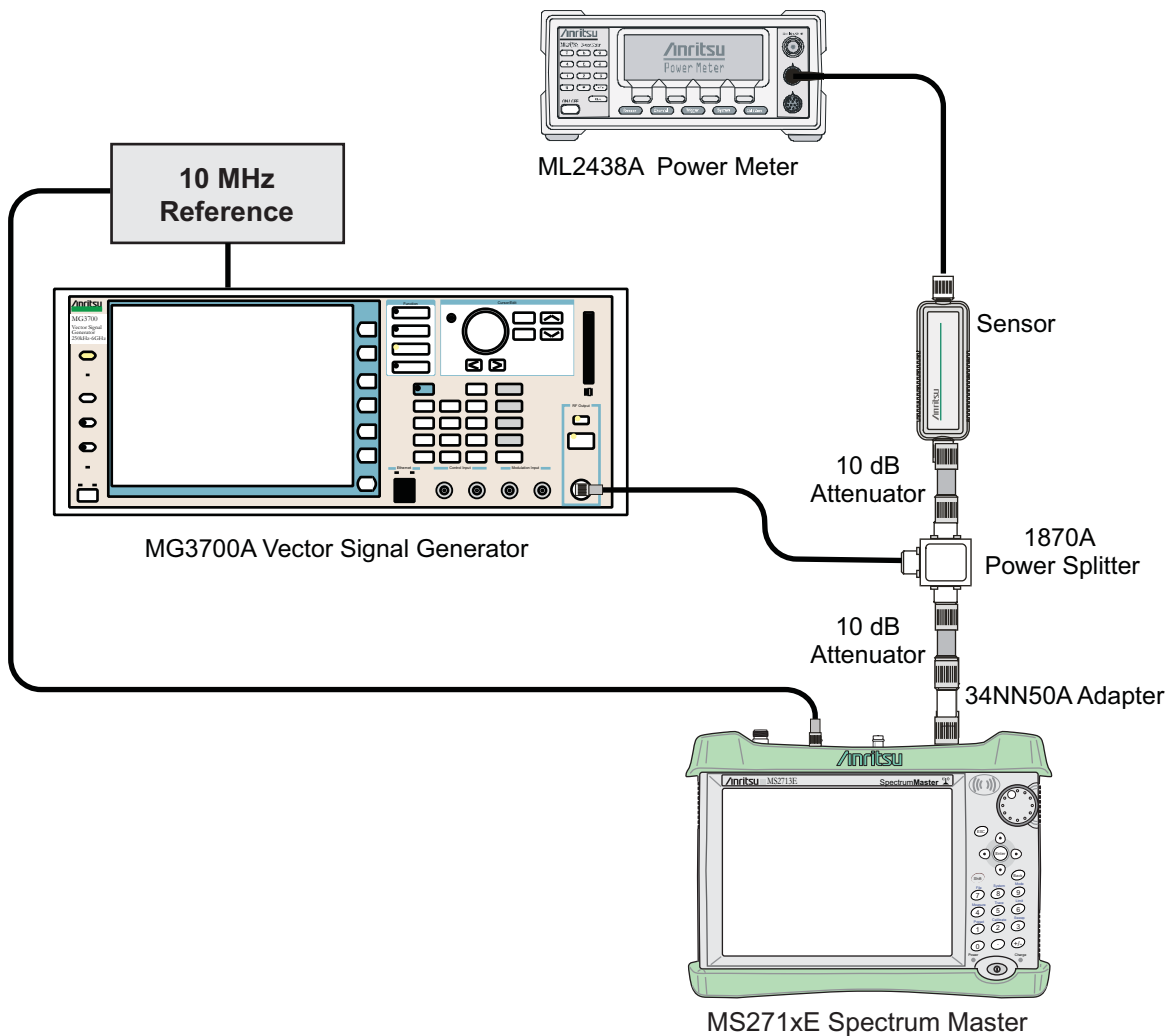

Figure 4-10. WCDMA Occupied Bandwidth (OBW) Verification
3. Connect the MG3700A, splitter, attenuator, power meter, and Sensor as shown in Figure 4-10.
4. Press the **On/Off** key to turn On the MS271xE and wait until the measurement display appears. Then press the **Shift** key, then press the **Mode** (9) key to activate the mode selection menu.
6. Press the **Shift** key, the **Preset** (1) key, and then the Preset submenu key.